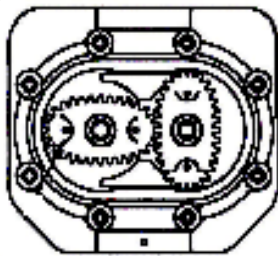

Fig 1
- 1) Replace both rotors (4) so as they are at 90° to each other, see Fig 1. Check the rotor rotation by turning either of the rotors. If the rotors are not in mesh correctly or do not rotate freely remove one of the rotors and replace it correctly at 90° to the other rotor. Re-check the operation of the rotors.